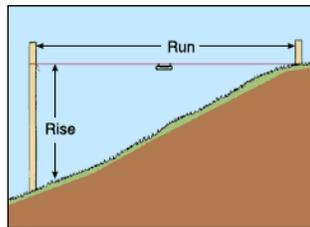

Figure 1..
- a. You will need to calculate the slope of your path (figure 1) using the following equation: